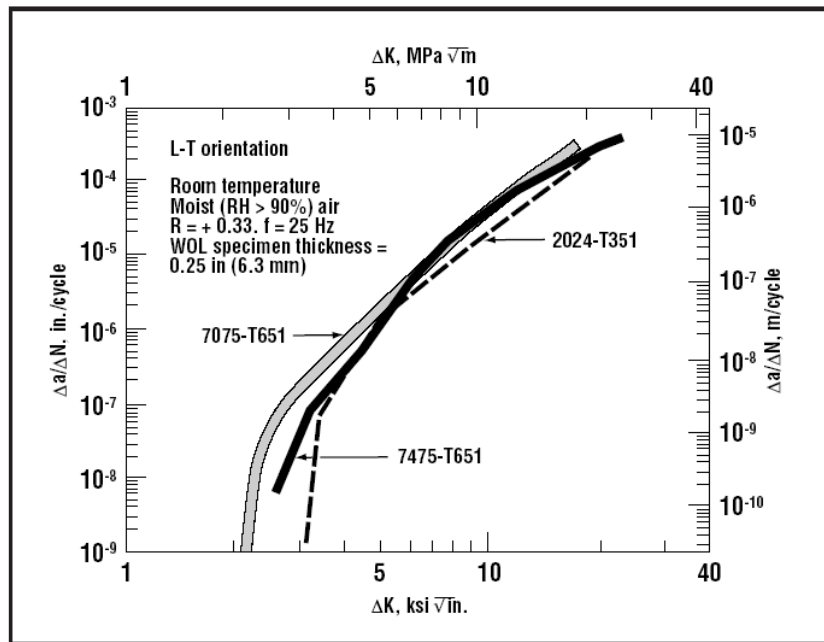

Figure 2: Fatigue curve for aluminum/zinc alloy
- The material considered is a 7075-type aluminum alloy, with heat treatment 651 (properties in Table 2 and on Figure 2).